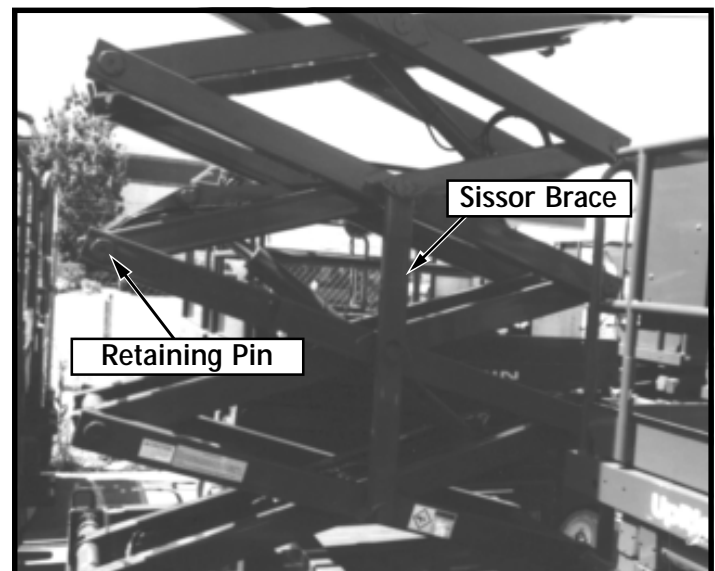

Figure 4-2: Blocking the Elevating Assembly X31N
4.2 Blocking Elevating Assembly X31N (Figure 4-2)